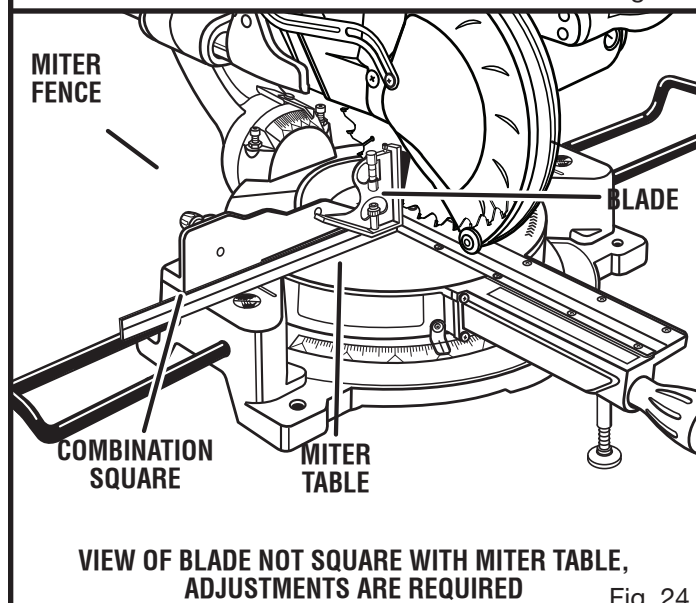

Fig. 24
- If the top or bottom of the saw blade angles away from the square as shown in figures 24 and 25, adjustments are needed.